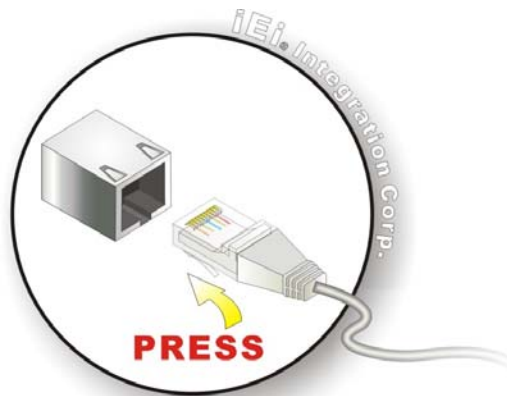

Figure 3-6: LAN Connection
Step 2: **Align the connectors.** Align the RJ-45 connector on the LAN cable with the RJ-45 connectors on the AFL3-W07A-BT-N1. See **Figure 3-6**.